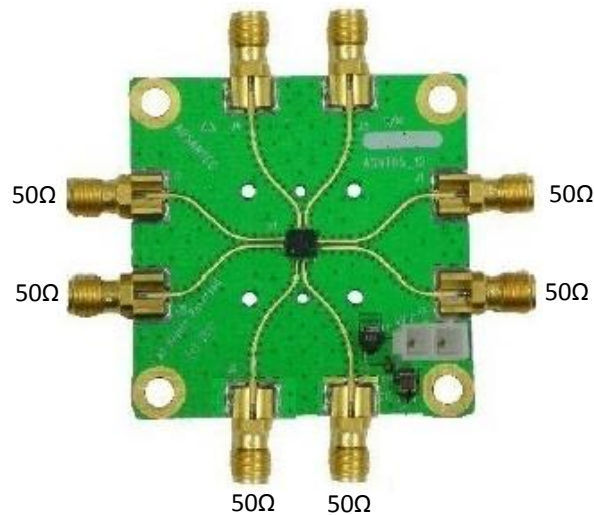

Fig. 2. Impedance of I/O Connectors
2. Measure the resistance of all connector pins to VCC, including the power supply, while making sure the board is grounded. All I/O ports should measure 50Ohms while on the power supply connector, VEE should be high impedance and GND should be a short. Fig. 2 shows the resistance values of the described I/O connectors.